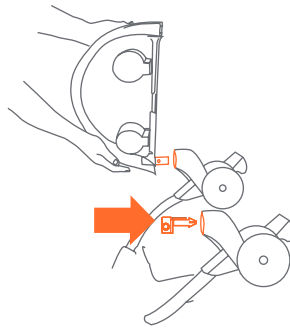
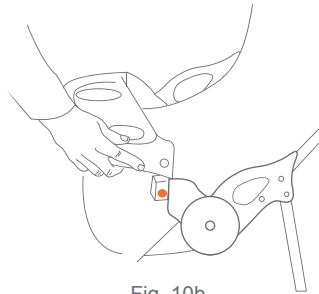

Fig. 10a
Fig. 10b
- 10)** • To attach the child tray: Insert the tray clip into the fitting on the stroller's fold joint. Check the tray clip locks into place (Fig. 10a). Push the angled tray onto the post at the end of the right armrest, while pressing downward on the snap button, until locked into place. Rotate the tray downward until latched onto the left armrest. Please check that the snap button comes through and securely latches the tray in place (Fig. 10b).